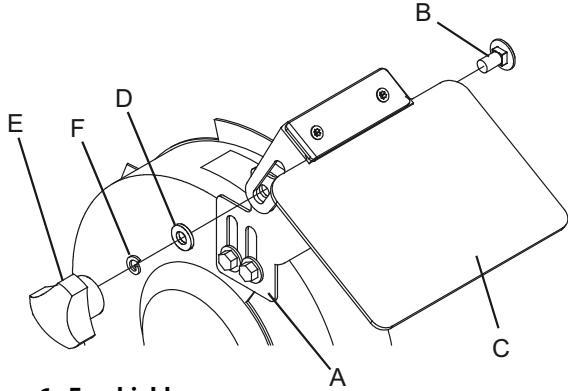

Figure 6 - Eyeshields
Refer to Figure 6
1. Assemble the eyeshield (C) to the Spark Arrestor (A) inserting carriage head screw (B) through Eyeshield and the Spark Arrestor as shown. See Figure 6.
2. Assemble the flat washer (D), lockwasher (F) and Lock Knob (E) to the carriage head screw and tighten until the Eyeshield remains in the desired position. See Figure 6.